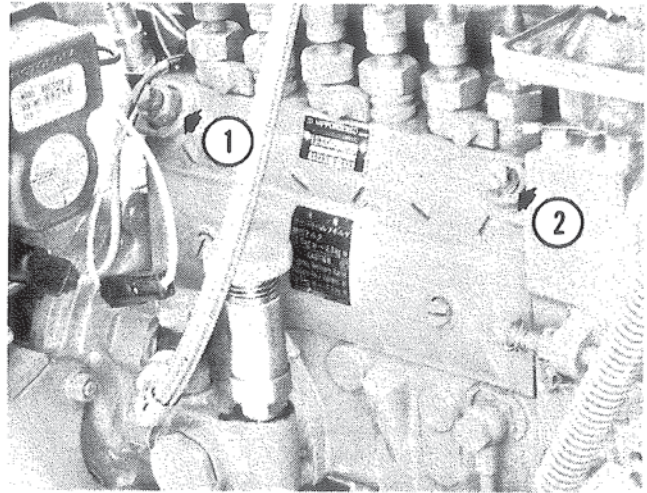

Figure 3. Bleeding Injection Pump.
Bleeding Injection Pump. Figure 3.
1. Loosen bleeder screw ① Figure 3, and pump priming pump until fuel flows without any air bubbles.
2. Loosen other bleeder screw ② and bleed.
3. Finish bleeding air by setting throttle full open and turning starter for about ten (10) seconds.